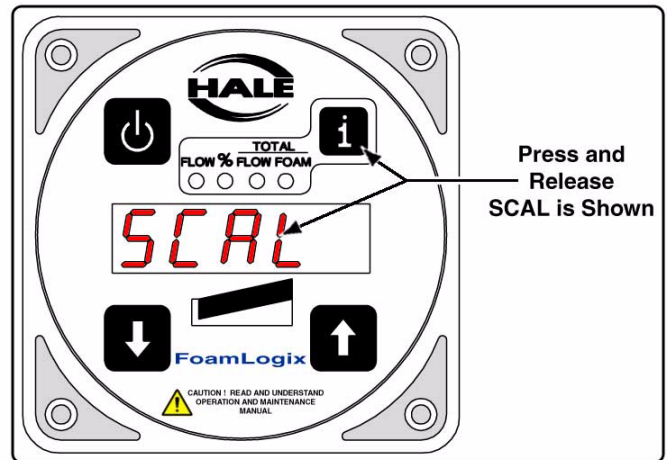

Figure 4-12: Exit and Save Calibration
4. The display shows **SCAL** for several seconds then cycles through the start-up sequence followed by the flow display **O**. (See Figure 4-12: “Exit and Save Calibration.”)